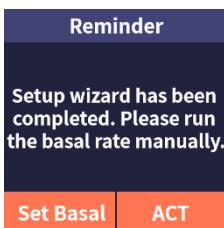

Figure 4.28
(5) Complete the replacement of the reservoir (as shown in Figure 4.28). Click "Set Basal" to open the interface to set the basal or click "ACT" to exit the setup wizard.